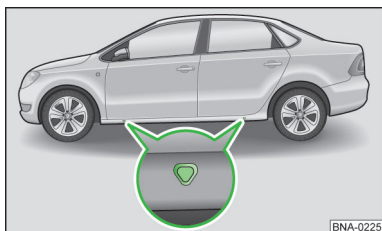

Fig. 79
Only apply the jack at the jacking points shown (marks on the body)  **» fig. 79**. Always use the jacking point nearest to the wheel in question .
-  Look under the vehicle for the jacking point  **» fig. 79** nearest to the wheel you will be changing.